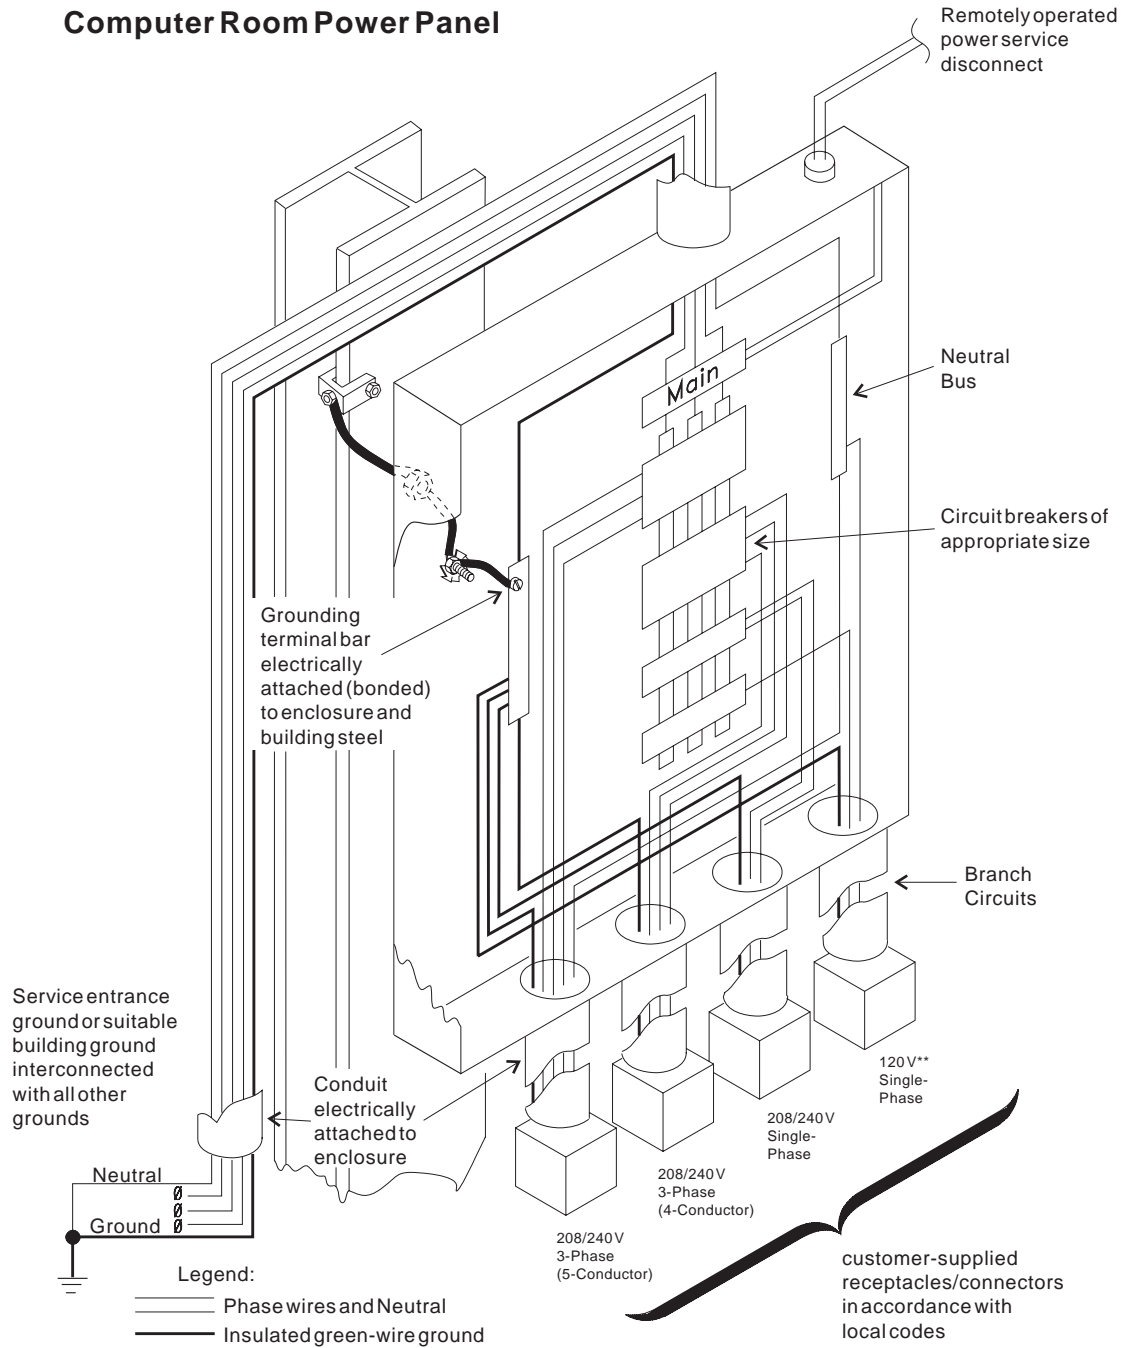

Figure 50. Typical Power Distribution System
4. Ensure that the ground has sufficiently low impedance to limit the voltage to ground and to facilitate the operation of protective devices in the electrical circuit. For example, the ground path should not exceed one (1) ohm for 120-volt, 20-ampere branch circuit devices. Your local requirements might be more stringent.
6. Ensure that the equipment grounding conductor to the power distribution center is electrically bonded to the enclosure and to the connector grounding terminal. Refer to Figure 50 on page 244, which shows the correct wiring of a typical power distribution system. The conduit must not be used as the only grounding means and it must be connected in parallel with any grounding wires it contains.